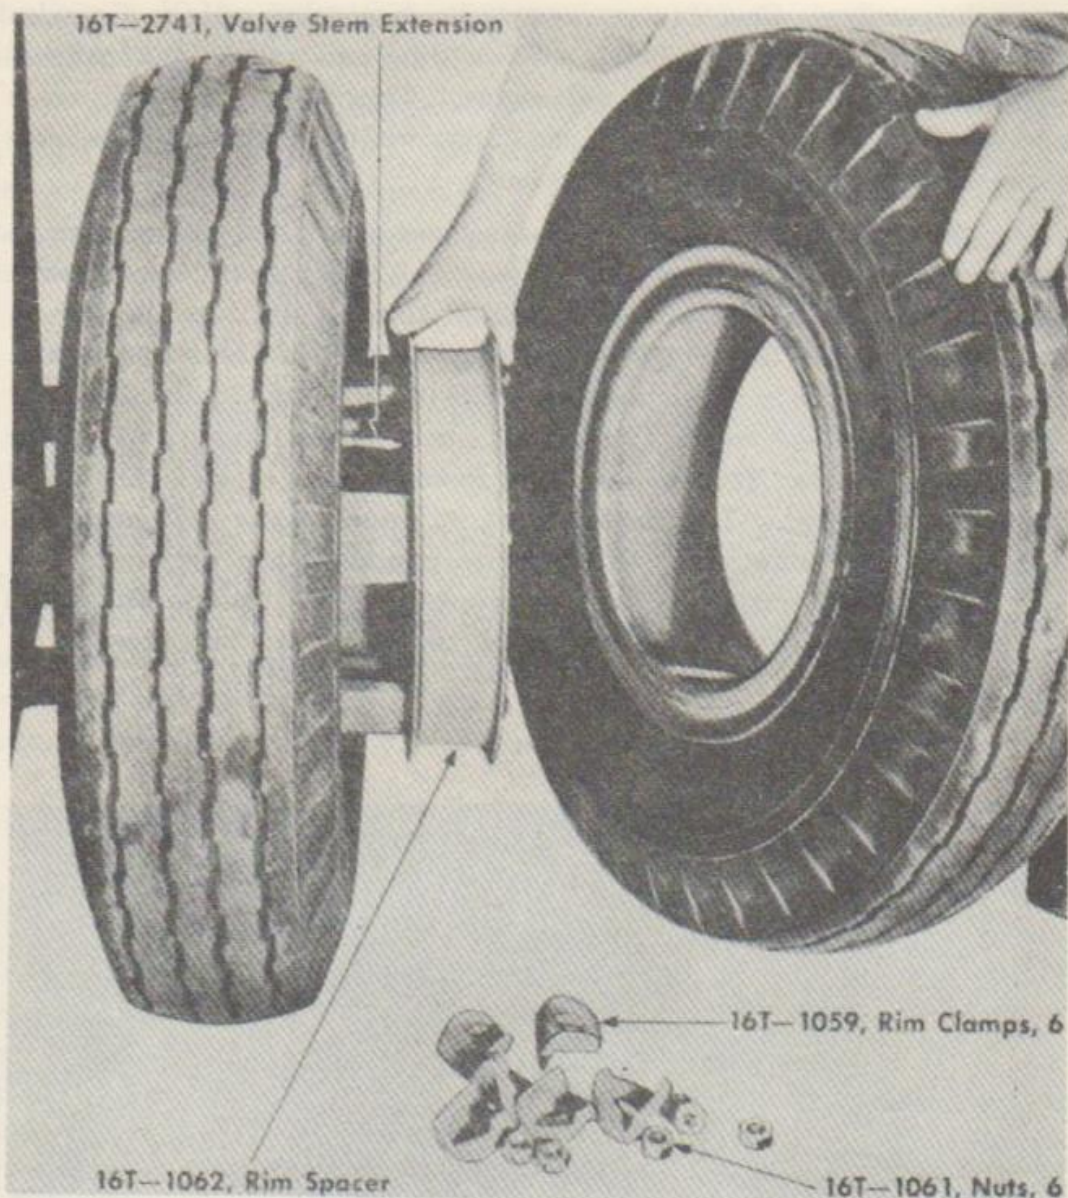

FIGURE 55. INSTALLING TIRES
e. Installation (figs. 55 and 56). Install inner tire on wheel with valve stem towards the hub cap. Place spacer band in position. Mount outside tire. Position valve stem at next spoke to which inner tire valve stem is placed. By placing valve stem in this manner, both inner and outer valves are more accessible. Place the six clamp lugs on rim nuts. Place the six nuts on the bolts and draw the nuts up, but not